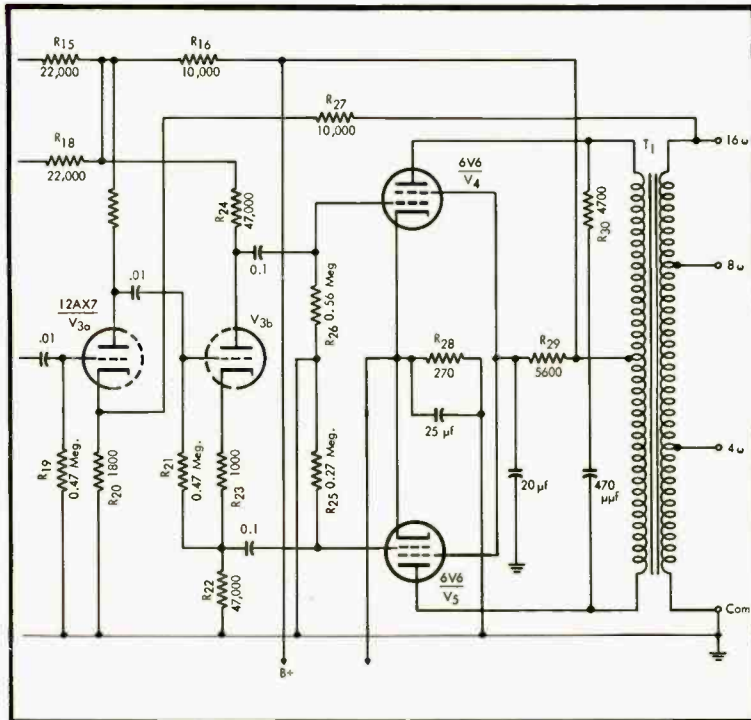

Fig. 1. Typical small power amplifier used for example worked out in the text.
The reader is probably aware that feedback is the process of applying some of the output voltage of an amplifier back to the input of an earlier stage in the circuit. This is shown in Fig. 1 which is a schematic diagram of a straight voltage amplifier V_{3A} , phase splitter V_{3B} , and push-pull output stage V_4, V_5 . This circuit arrangement is given because it is found in a number of hi-fi amplifiers and will be familiar to many readers.
Actual measurements made on the portion of the amplifier as shown in Fig. 1 are as follows: with the feedback resistor R_{27} disconnected from the output winding of the transformer and a 1000-cps signal from an audio oscillator applied between the grid of V_{3A} and ground, a 0.23-volt signal from the oscillator fed to the input gave a 9-volt signal across the output transformer. See simplified schematic of (A) in Fig. 3. A 9-volt signal across the 16-ohm output winding is approximately 5 watts output.¹ Therefore, the voltage gain without feedback is equal to the output voltage, 9, divided by the input voltage, 0.23, or 39.